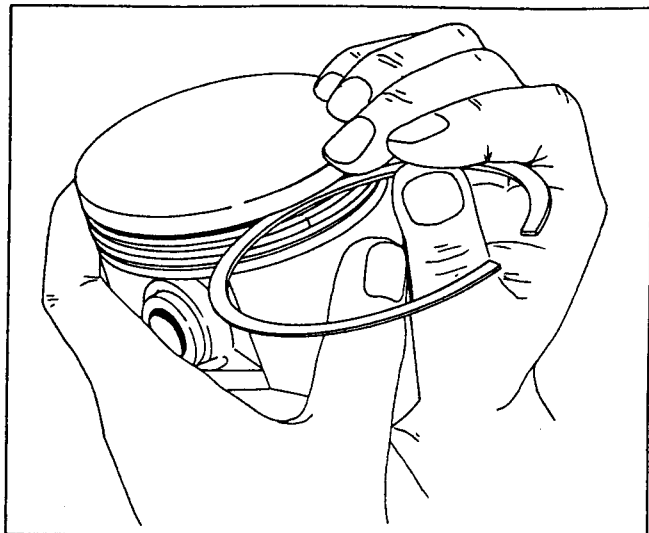

Figure 8-1-52
8. Slip the outer surface of the compression ring into the piston ring groove and roll the ring entirely around the groove to make sure that the ring is free and does not bind in the groove at any point (see Figure 8-1-52). If binding occurs, the cause should be determined and removed by carefully dressing with a fine cut file. However, if the binding is caused by a distorted ring, install a new ring.